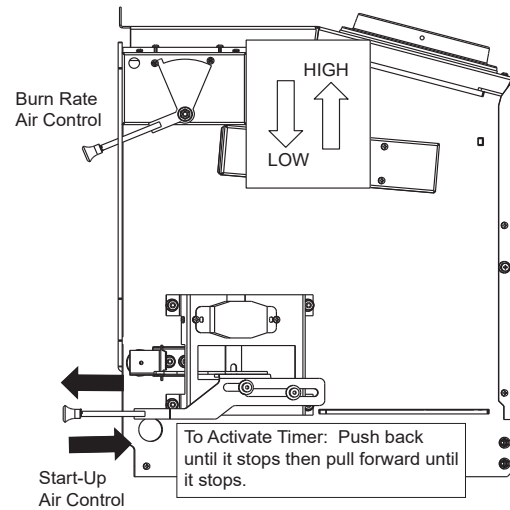

Figure 13.2 - Activating Timer
2. Follow these burn rate instructions below (**Figure 13.2**).